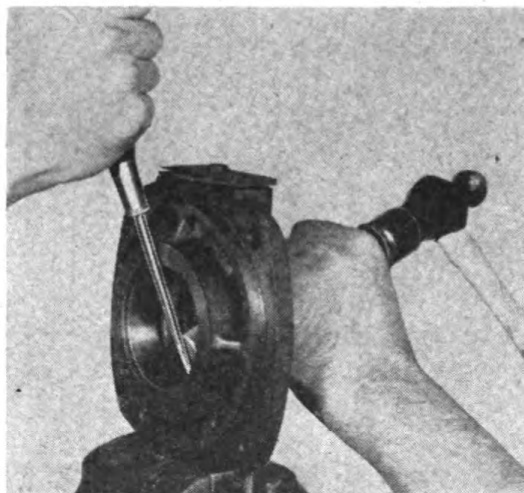

Figure 155
(4) If necessary to replace a bearing cup, a convenient method of removing oil cup from bearing carrier is shown in Figure 155. The